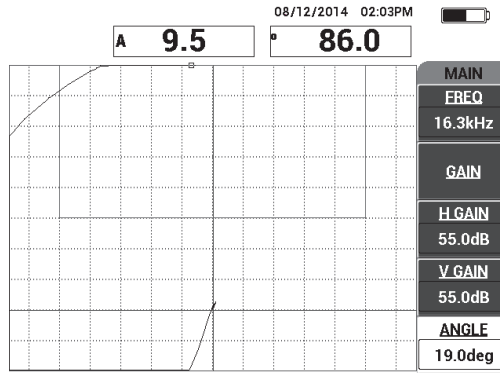

Figure 6-66 Adjusting the angle to move the dot upwards
- Lift the probe into the air, then press the MAIN menu key (📡) and adjust the **ANGLE** (E key) so that the dot moves upwards in the XY view (see Figure 6-66 on page 179).